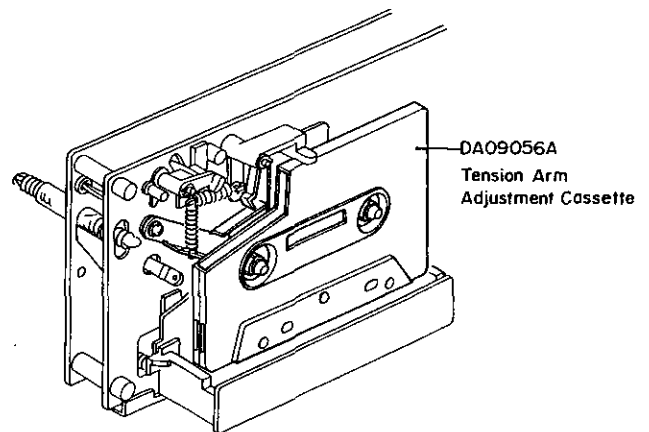
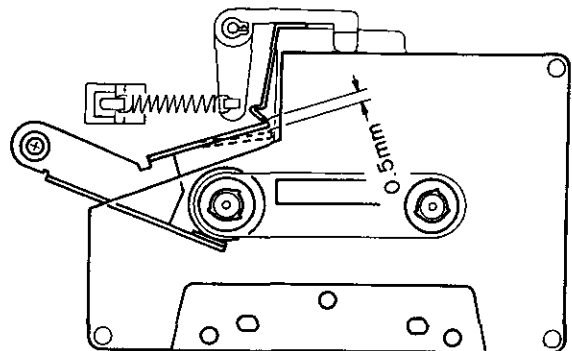
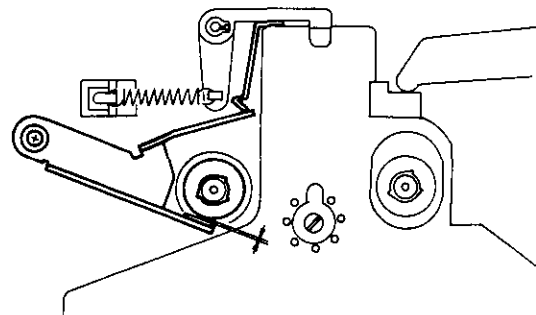

Fig. 4.13
Fig. 4.14
Fig. 4.15
Refer to Figs. 4.13 – 4.16.
- (1) Load a Tension Arm Adjustment Cassette (DA09056A) in the N-700ZXE referring to Fig. 4.13.
- (2) Set the N-700ZXE in Play mode.
- (3) Bend the Back Tension Arm with pliers so that the gap between the Cassette Holding Spring assembled on the Head Base Ass'y and the Back Tension Arm becomes 0.5 mm as shown in Fig. 4.14. Do not bend the top of the Back Tension Arm.
- (4) Set the N-700ZXE in Stop mode, and remove the Tension Arm Adjustment Cassette (DA09056A), then set the N-700ZXE in Cue mode.
- In Cue mode, check to insure that the gap is found between the Supply Reel Hub B Ass'y and the Felt of Back Tension Ass'y as shown in Fig. 4.15.
- (5) Load the Back Tension Gauge (DA09055A) in the N-700ZXE.
- (6) Set the N-700ZXE in Play mode and read the torque value of Back Tension Gauge.